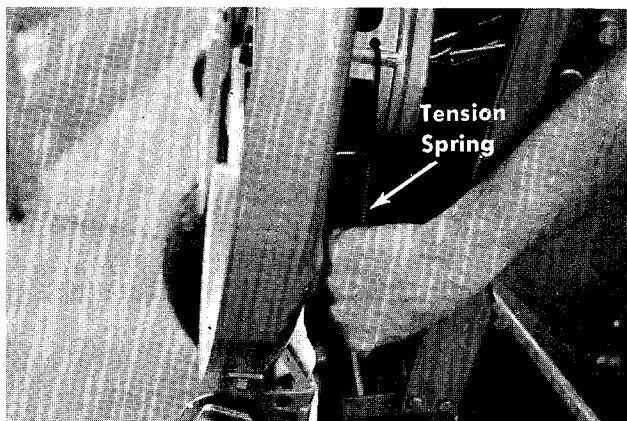

FIGURE 30. REMOVING TENSION SPRINGS
Step 5. Unhook the tension springs on both sides of the deck. See figure 30.